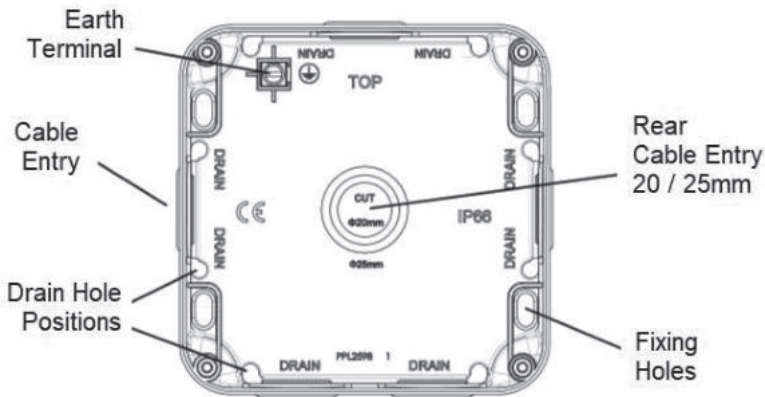

Fig. 2
- The backbox has drain hole drilling guides marked (see Fig. 2). Drilling a drain hole is advised if the unit is installed in a location subject to temperature fluctuations where build-up of condensation may occur. It is not advised if the unit will be subject to spray or jets as drilling a drain hole will reduce the IP rating. A 3-5mm hole can be drilled at the bottom back edge of the enclosure where marked. If wiring in conduit to the bottom entry, then the drain hole should be drilled at the lowest point of the conduit run not in the backbox